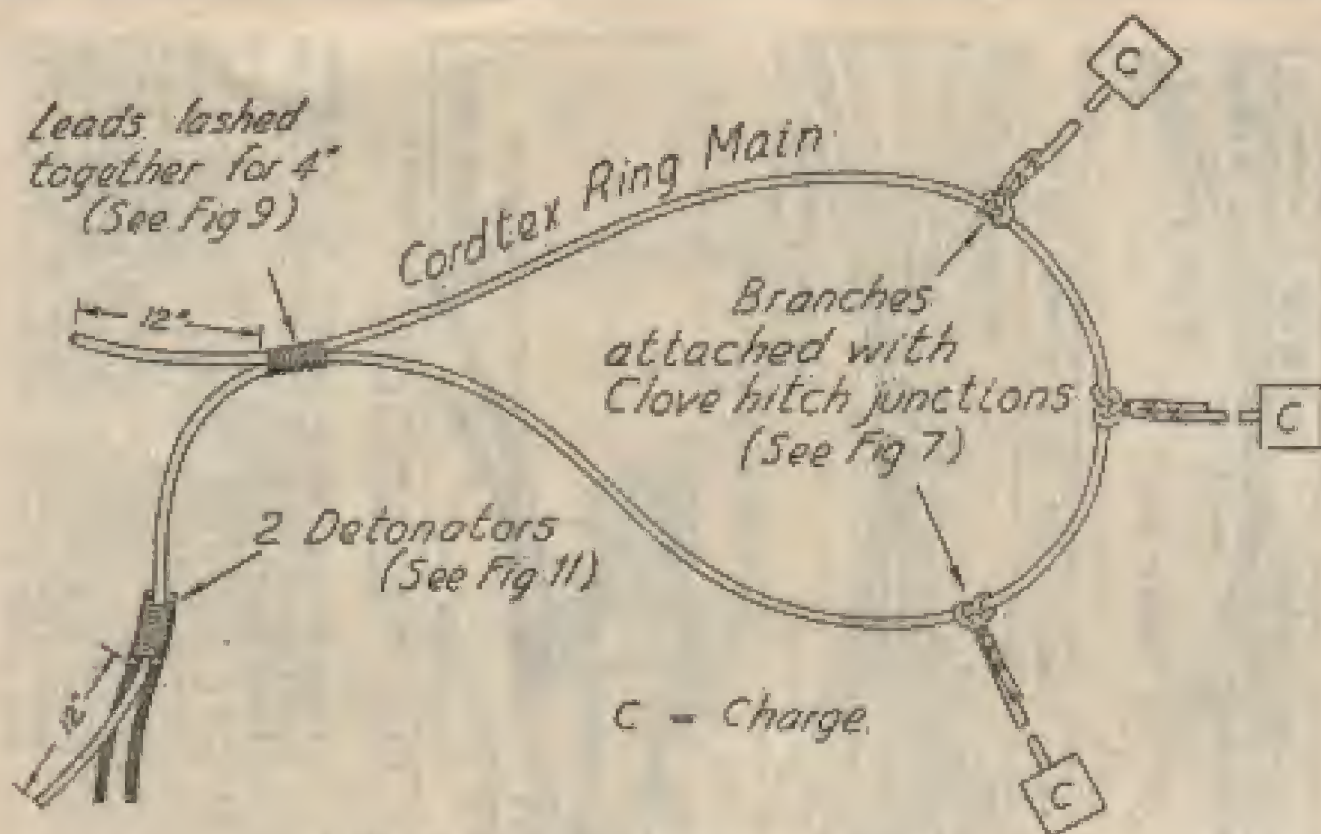

Fig 12 - Simple cordtex or primacord ring main
- (e) Ring mains.—The most efficient method of firing more than one charge simultaneously is by the use of a ring main made up with detonating fuse (see Fig 12). The main is initiated with two detonators and two lengths of safety fuse as already described.